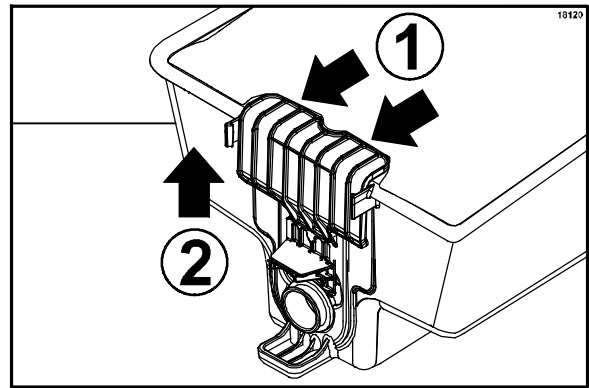

Figure 72
Note: To remove the product bag from the bin, move the product bin slide to the “open” position by (1) pulling the slide slightly away from the bin and (2) up, until it stops. (See Figure 72.)